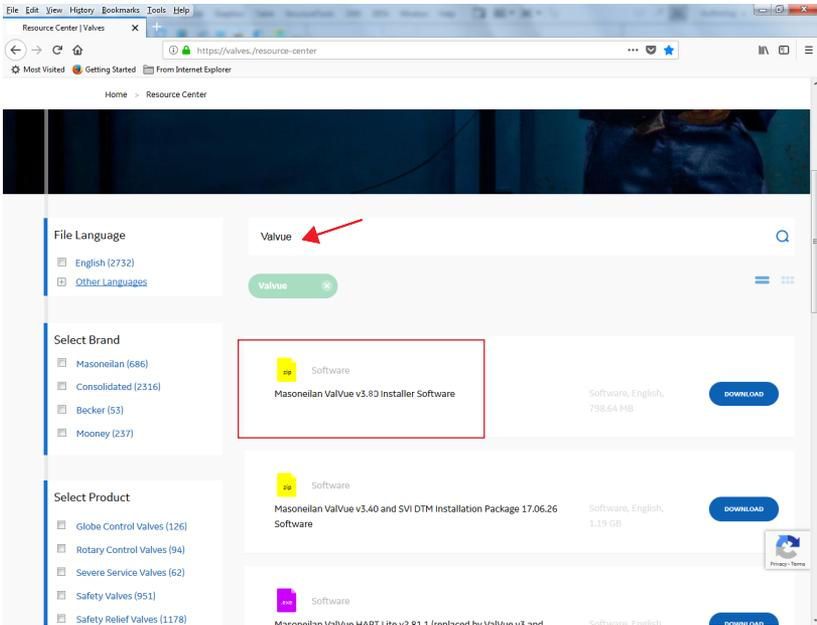

Figure 9 - Download Center: Search for ValVue
1. Go to the Resource Library (<https://valves.bakerhughes.com/resource-center>) and enter ValVue in the search field (arrow in Figure 9).
The results appear (red box in Figure 9).